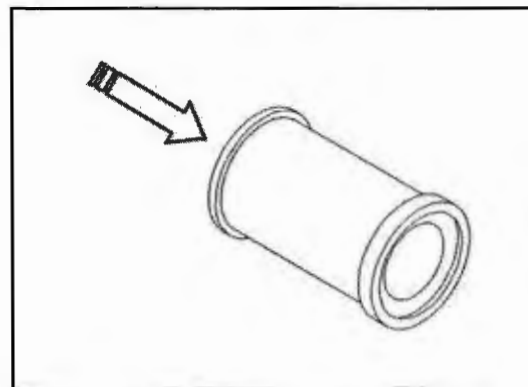

Fig. 28-4 - Cleaning Filter Element
- If tapping element does not remove dust, blow out dust with compressed air (not exceeding 72.5 psi) by inserting the air line nozzle inside the element and blowing air through the element to the outside as shown. (See Fig. 28-4).